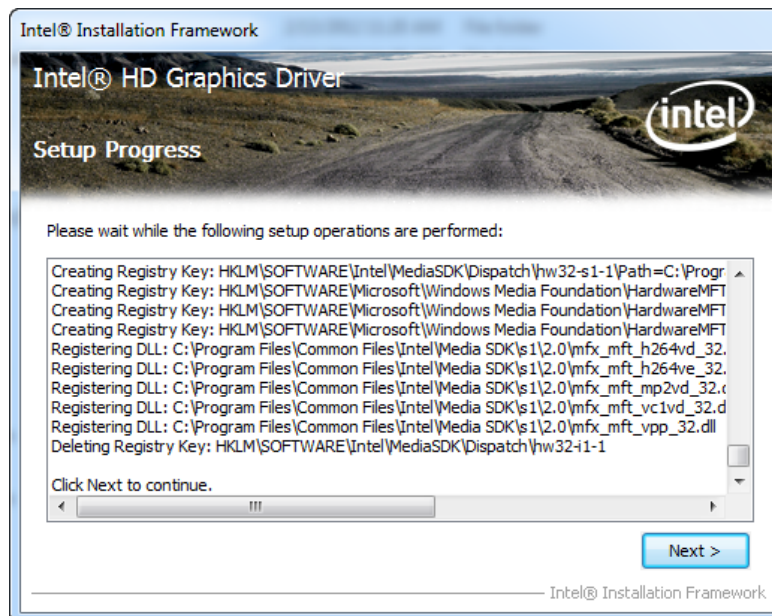

Figure 6-13: Graphics Driver Setup Operations
Step 14: **Setup Operations** are performed as shown in **Figure 6-13**.